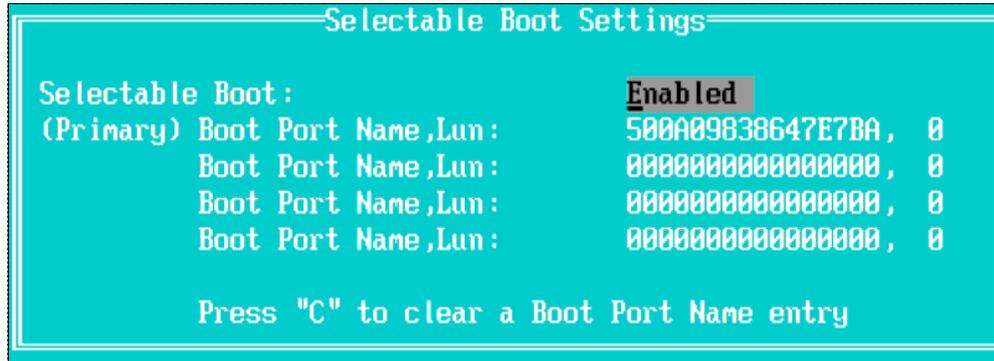

Figure 10-28 Enabling selectable boot in Selectable Boot Settings screen
8. Scroll to Selectable Boot, as shown in Figure 10-28.